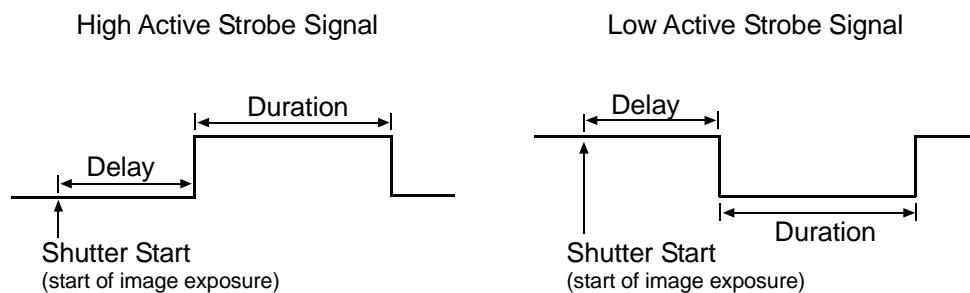

Figure 3-14: Strobe Signal
- Set the Delay_Value field. The setting in this field will determine the time between the start of image exposure and when the strobe signal changes state as shown in Figure 3-14.
- Set the Duration_Value field. The setting in this field will determine the duration of the strobe signal as shown in Figure 3-14.